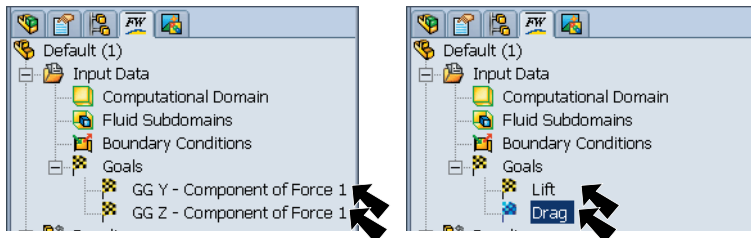

Fig. 15
Z- Component of Force **Fig. 15**.
- Step 7. Rename the goals to **Lift and Drag**. To rename, click and hold over **Y- Component of Force** and key-in **Lift**, **Fig. 15**. Rename **Z- Component of Force** to **Drag**.